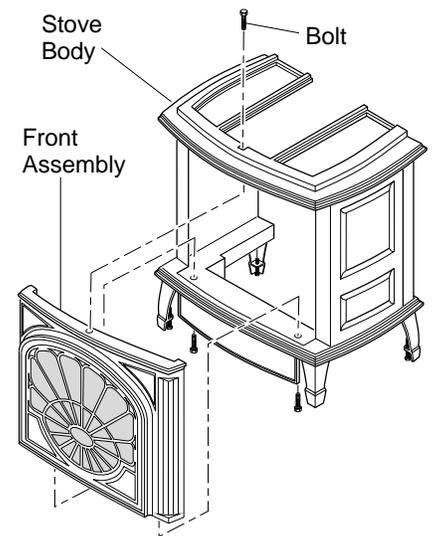

Figure 13 - Removing Front Assembly
13. Remove 2 bolts from bottom of stove and save. Remove bolt from the top of the stove to remove the front panel assembly (see Figure 13).